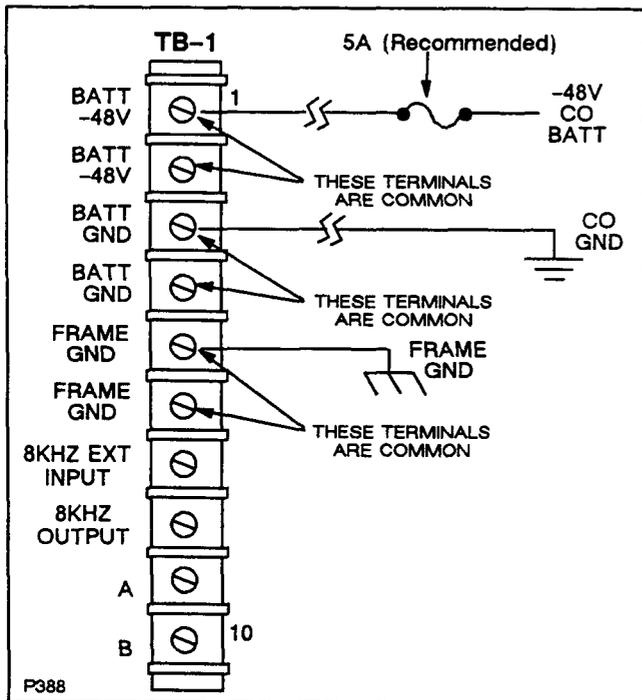

Figure 7. COT Shelf Power Terminal Strip
The COT is powered from the CO battery. It is recommended that the shelf be powered from a fused power distribution panel. Locate the COT shelf power terminal strip and connect the shelf power wiring as shown in Figure 7. It is recommended that 14 or 16 AWG stranded wire be used for -48V and ground. DO NOT exceed 14 feet of 16 AWG.
- (a) Obtain the appropriate gauge and length wire for the frame ground (#14 AWG is recommended). Connect one end to one of the FRAME GND terminals of the COT shelf TB-1 terminal block (see Figure 7). Connect the other end to office frame ground.
- (b) Obtain the appropriate gauge and length wire for the power ground. Connect one end to one of the BATT GND terminals of the COT shelf TB-1 terminal block (see Figure 7). Connect the other end to the power ground source (power distribution panel).
- (c) Obtain the appropriate gauge and length wire for the -48Vdc battery. Connect one end to one of the BATT-48V terminals of the COT shelf TB-1 terminal block (see Figure 7). Connect the other end to the CO -48Vdc battery source (power distribution panel).